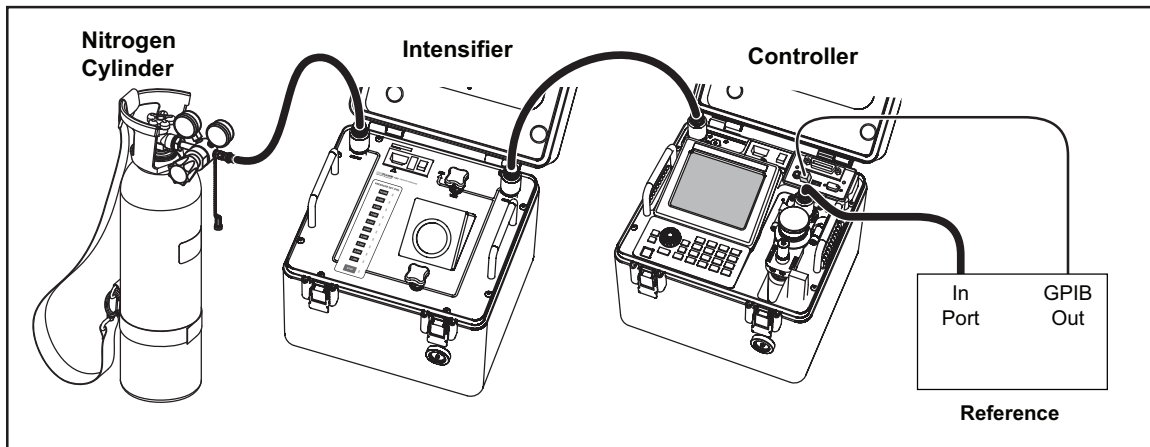

Figure 7-1. Equipment Setup
3. Connect the Nitrogen Cylinder supply to the Controller as follows (see Figure 7-1):
4. Connect the Intensifier to the Controller as follows (see Figure 7-1):